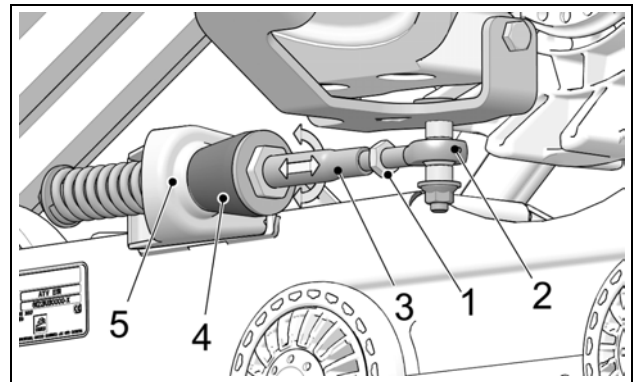

Figure 15
- Turn stabilizing arm nut to adjust length of rod end (1) and get rubber cone (2) to apply light pressure on anti-rotation retainer (3). Figure 15.